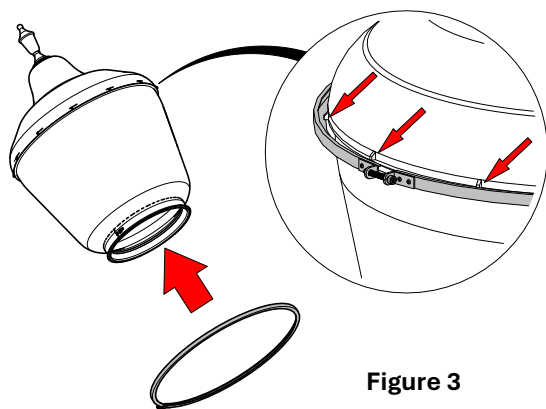

Figure 3
3. Assemble the cover and reflector with the provided clamp band. Install the clamp band with the large edge face down and fit it over the upper lip of the reflector and small tabs of the cover. Tighten the socket head screw to secure the clamp band [Figure 3].